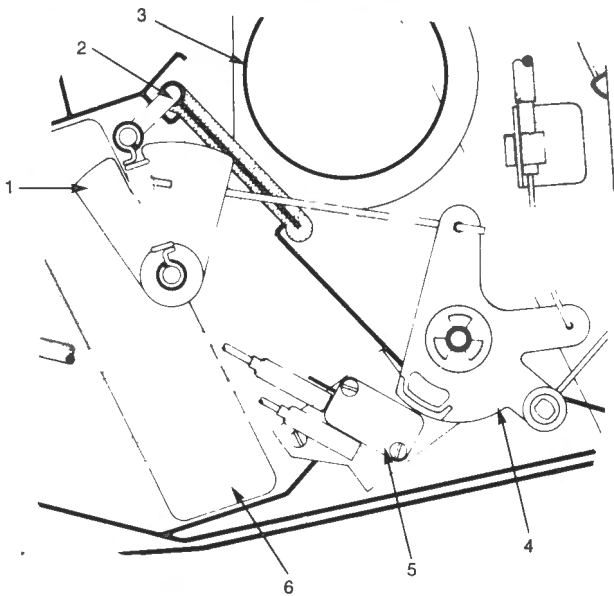

Fig. X-26
- 5 Position the operating cam so that the heater flap rod is engaged with the slot in the operating lever. Refer Fig. X-26.